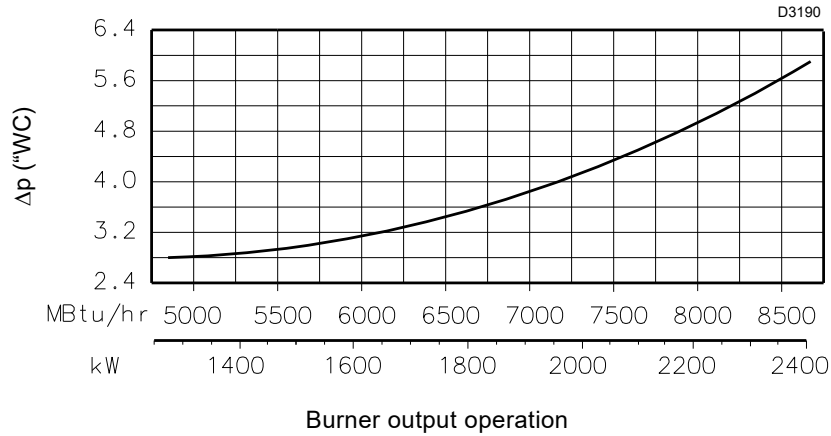
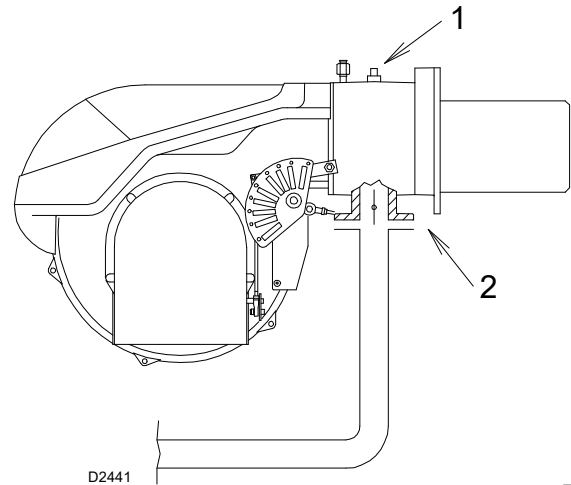

Fig. 21
Fig. 22
The diagram (Fig. 21) shows minimum load losses at combustion head depending on the maximum burner output operation with natural gas (G 20).
Gas pressure is measured at the test point 1)(Fig. 22), with:
- subtract the combustion chamber pressure from the gas pressure measured at test point 1)(Fig. 22);
- find, in the diagram (Fig. 21) the pressure value closest to the result you want;
- Gas pressure at test point 1)(Fig. 22) = 6 "wc
To know the required gas pressure at test point 1)(Fig. 22), set the maximum output required from the burner operation, then:
- read, on the diagram (Fig. 21), the pressure test point 1)(Fig. 22);
- pressure required at pressure test point 1)(Fig. 22).
Δp "WC gas butterfly 2)(Fig. 22)